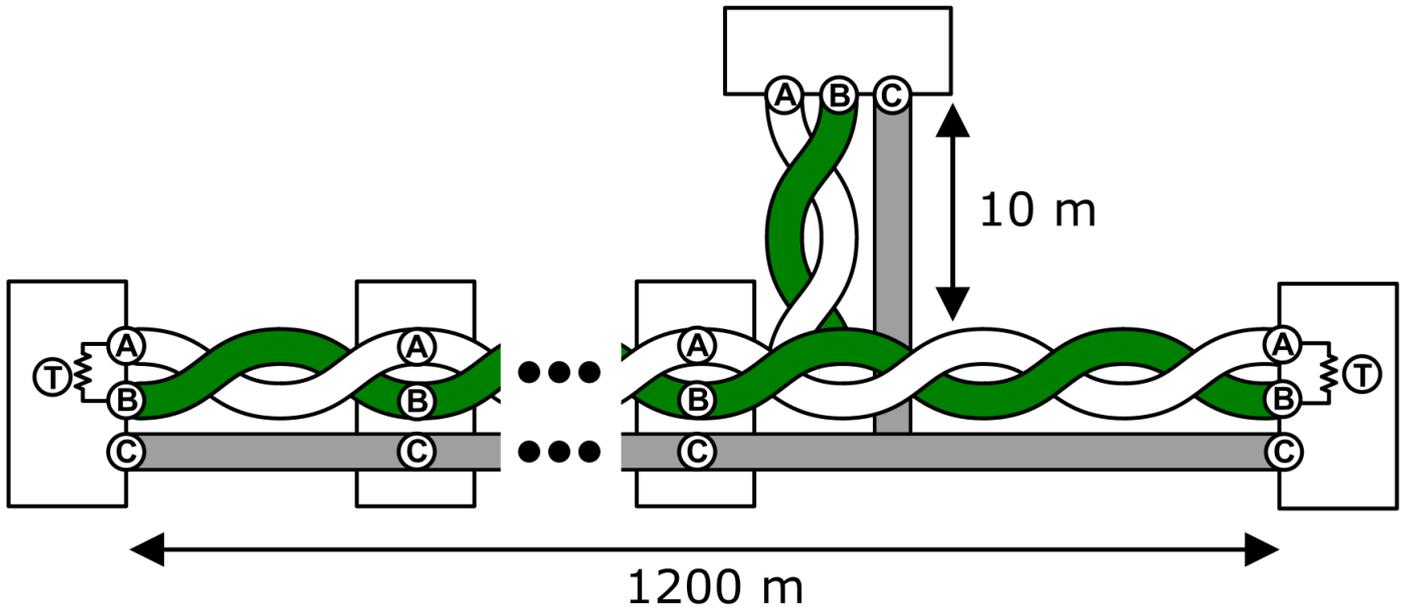

fig. 3
Twisted pair cable is used as a wire in the RS485 bus (A and B). The RS485 bus has a straight line topology with a maximum length of 1200 m. Straight line topology is recommended, and when we can't avoid a branch, let's try not to exceed 10 m. Star and ring topology should be avoided. Terminating resistors (T) must be activated at the extreme ends of the bus. (figure 3)